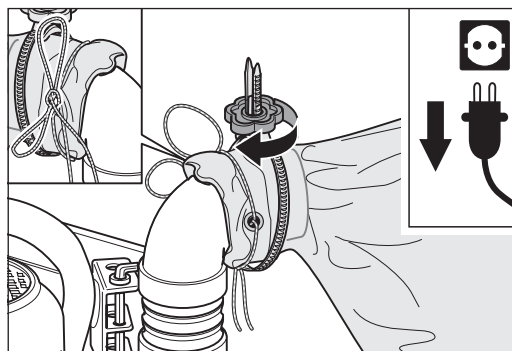

Fig. 4 Tighten the MultiClip firmly by hand and tie up the dust bag.
- 5 Tighten the MultiClip fastener firmly by hand and make sure that the dust bag is not folded underneath the MultiClip fastener. In addition, then use the string to tie up the dust bag (Fig. 4).